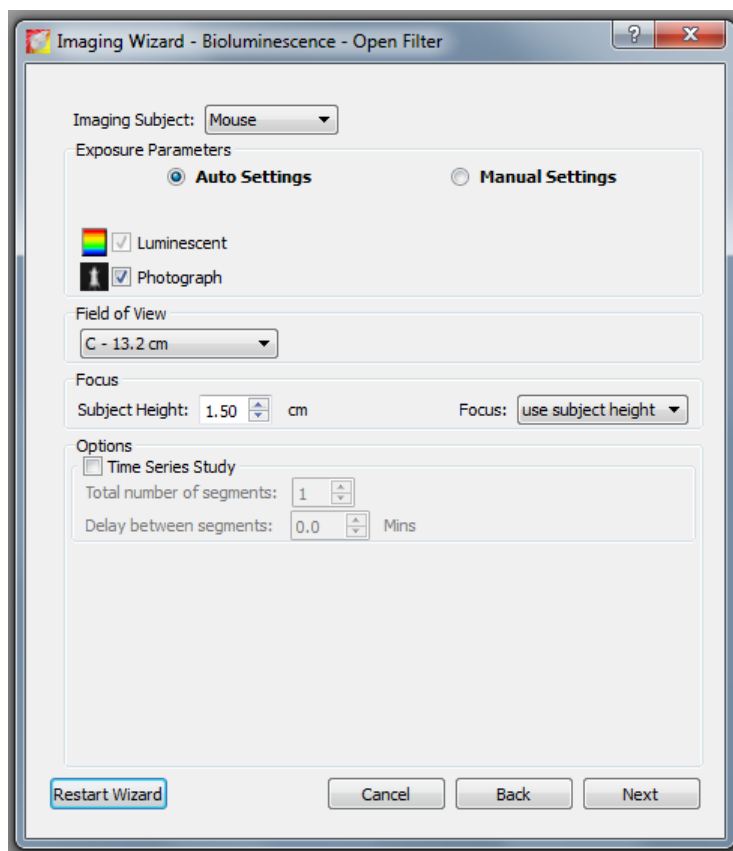

Figure 10: The figure above shows Imaging Wizard:Bio-luminescence Open Filter window.
6. Choose FOV, as shown by the green grid on the imaging stage. FOV A is for a small FOV on one mouse, B is for imaging one whole mouse, C is for 3 mice, and D is for 5 mice. See Figure:10